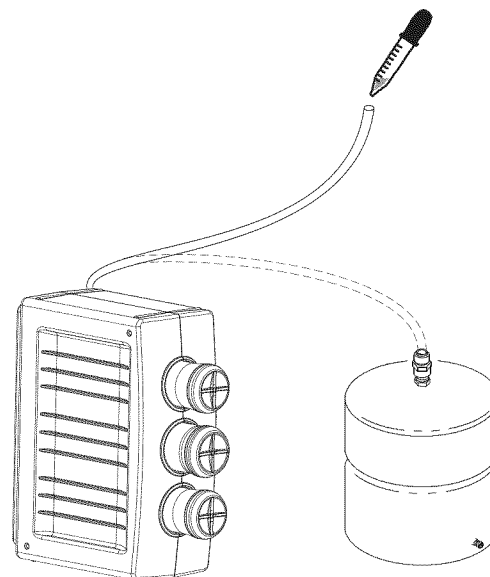

Figure 22
See Figure 22.
4. Add 3 ml. of bleach into open end of yellow tank tubing. Handle bleach according to bleach manufacturer's recommendations. See Figure 22.